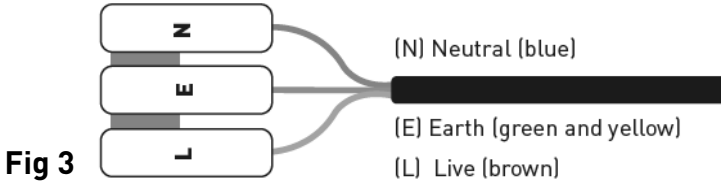

Fig 3
- Feed the cable through the compression gland on the rear of the access plate. Ensuring correct polarity is observed, carefully wire as shown in Fig 3